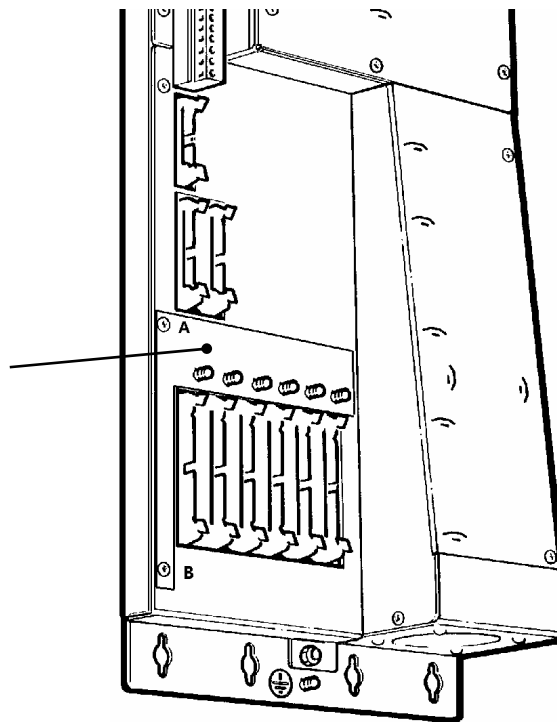

Figure 1 : Assembly of earthing plate to early model MV3000e Controller
1.1 If the MV3000e Controller is not fitted with earth studs similar to those shown in Figure 1 :
- (i) Remove and retain the two quantity, M4 × 6 long 'Taptite' screws from the positions adjacent to PL8 and PL DELTA 1. These are labelled as "A" and "B" in Figure 1.
- (ii) Locate the metal bracket supplied as indicated in Figure 1, and fix using the two screws removed in section 1.1 (i).